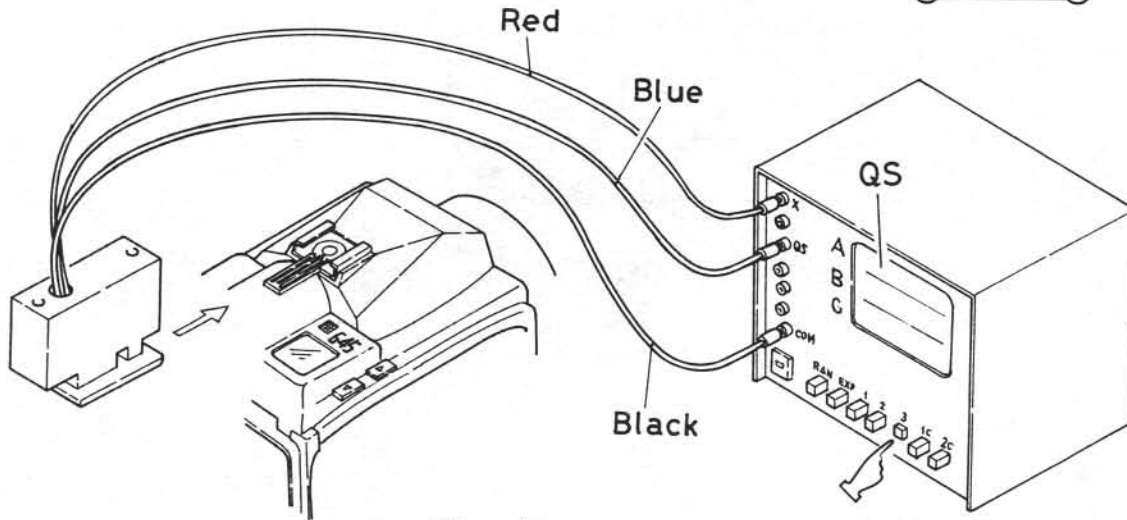

Fig. 64
2. Attach the RLC-244 to the accessory shoe and connect the lead wires to the shutter tester as shown in Fig. 64.